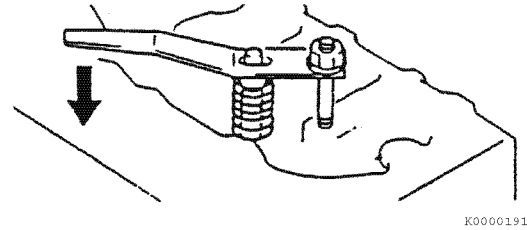

Figure 6-11
3. Using the valve spring compressor tool, compress one of the valve springs (Figure 6-11).